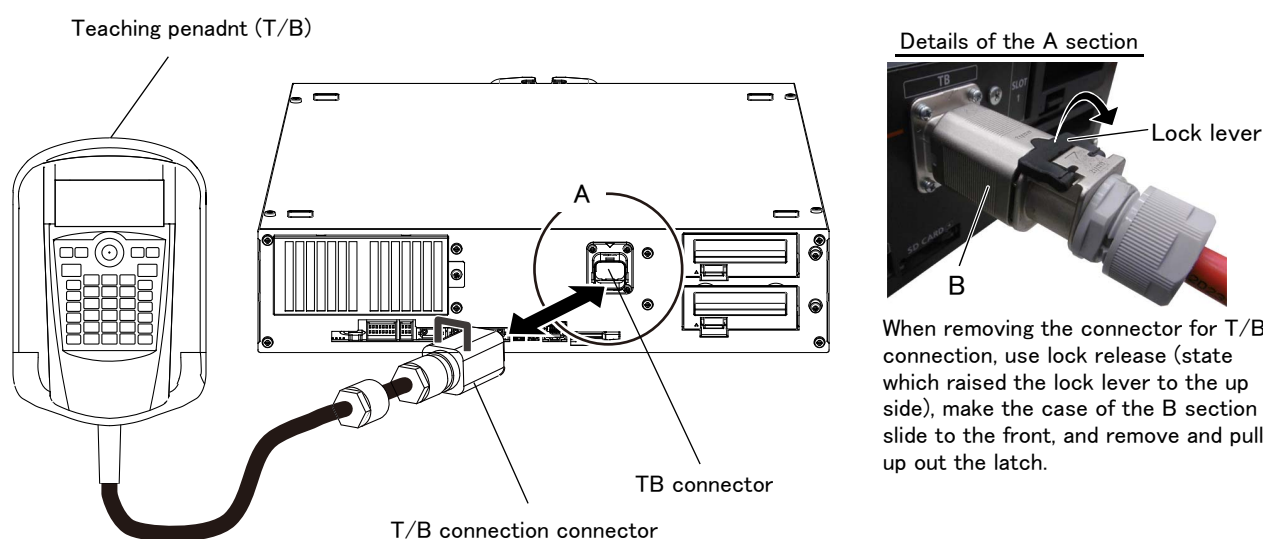

Fig. 4-2 : Installing and removing the T/B
- 2) Refer to Fig. 4-2, connects T/B connector to the robot controller. Use as the upper surface the lock lever, and push in until there is sound.
- 2) Refer to Fig. 4-2, raise up the lock lever in the connector upper part, and pull up the connector. Please install the dummy connector, if you use the robot, without connecting T/B.
- 2) Pull out the T/B connector within five seconds while 1). Refer to Fig. 4-2, raise up the lock lever in the connector upper part, and pull up the connector. Please install the dummy connector, if you use the robot, without connecting T/B.